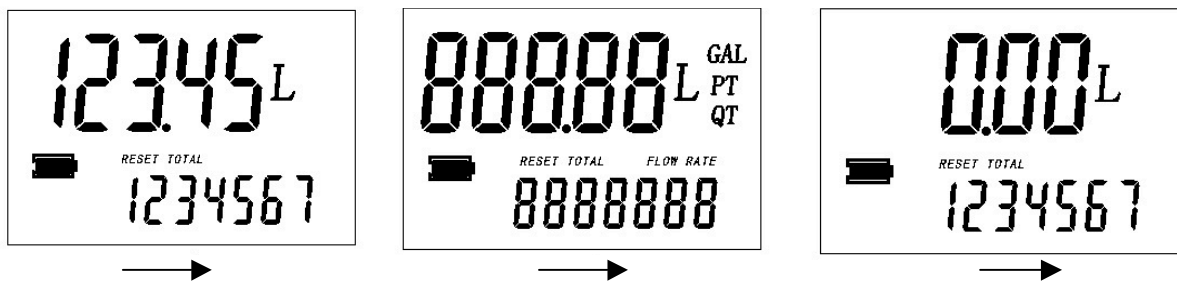

Fig. 2
- **Reset the present total (See Fig. 2)**